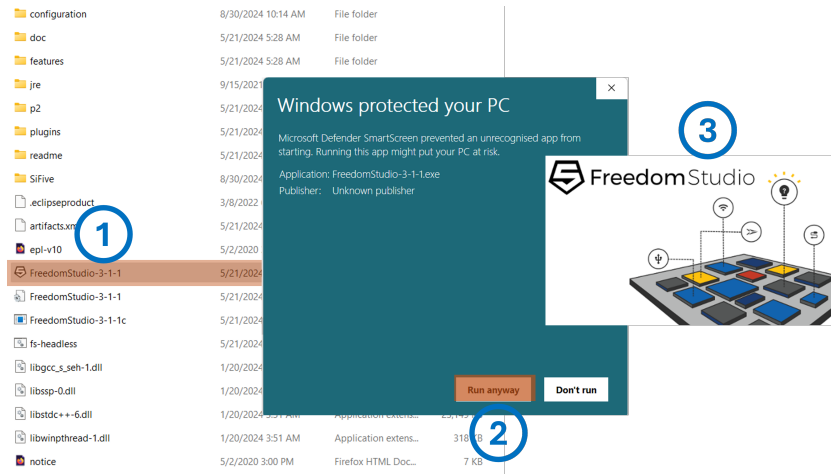

Figure 7: FreedomStudio GUI launch in 3 steps
- Double Click on "FreedomStudio-3-1-1" represented as 1 in Figure 7. In case you get the green box which is represented as 2 in the same Figure 7, click on "More Info" and then click on "Run anyway". After that, you would see the "FreedomStudio" software launched as shown in same Figure 7 represented by 3